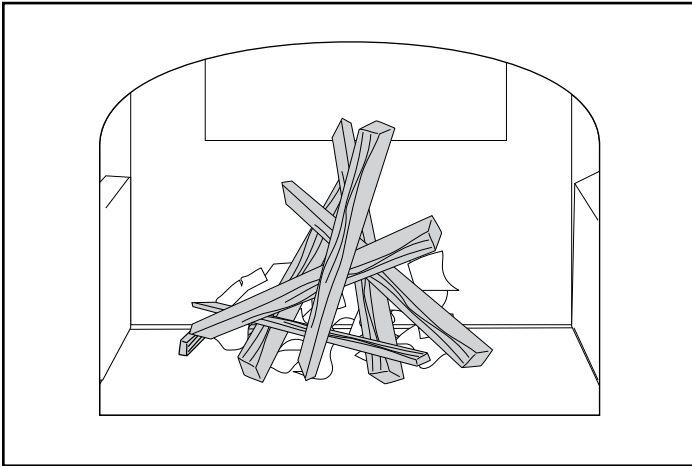

Figure 39 - Start the fire with newspaper and dry kindling.
2. Place several sheets of crumpled newspaper in the stove. Do NOT use glossy advertisements or colored paper, as they can poison the catalyst. Place on the paper six or eight pieces of dry kindling split to a finger-width size, and on the kindling lay two or three larger sticks of split dry wood approximately 1-2" (25-50 mm) in diameter. (Figure 39)